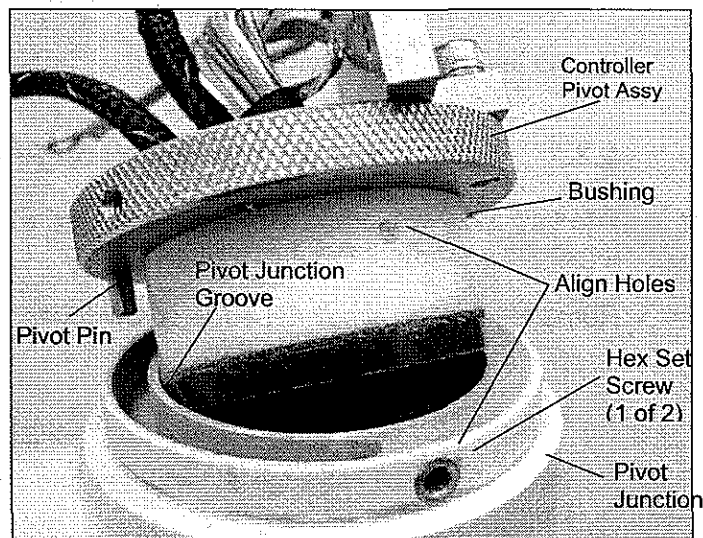

Figure 5-1d: Controller Pivot Assembly
1. Install the new Controller Pivot Assembly into the Pivot Junction while pulling the cables and ground wires through the opening. Make the following alignments while installing (see Figure 5-1d):